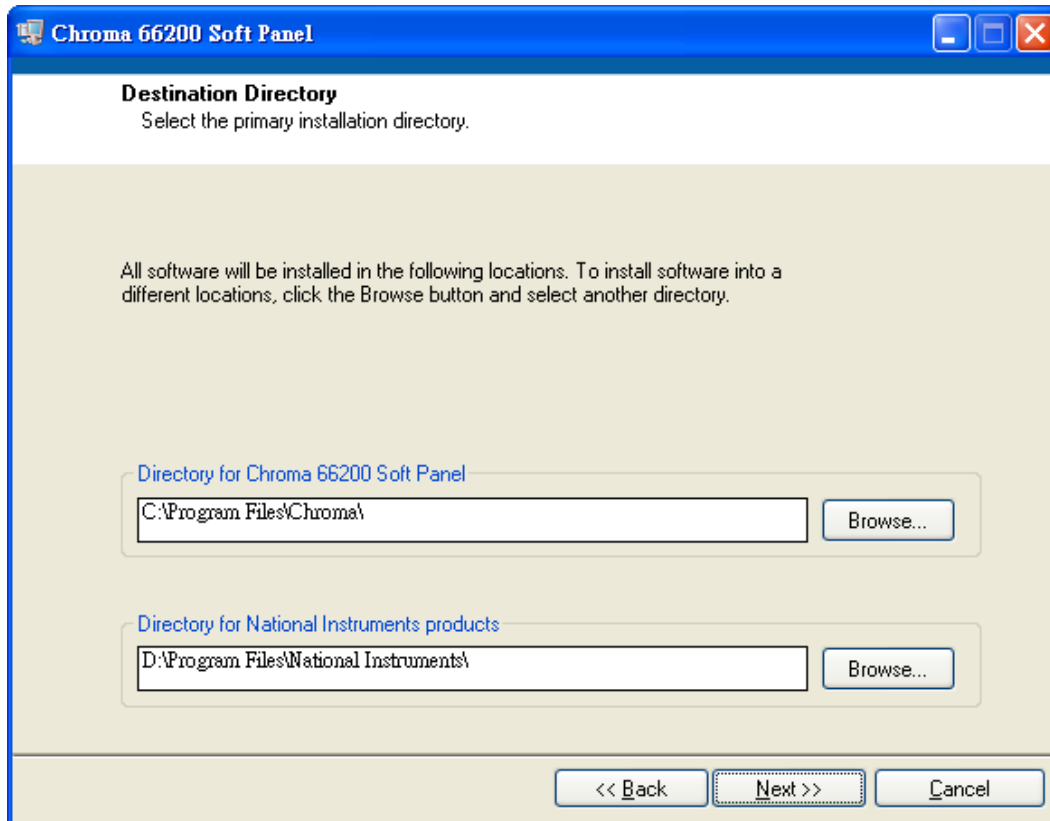

Figure 2-4 Selecting Chroma 66200 Soft Panel Installation Path
3. Select the installation path. The program is default installed in C:\Program Files\Chroma directory as shown in Figure 2-4. To change it, click **Browse** and specify the path for installation and click **Next >>** to proceed.